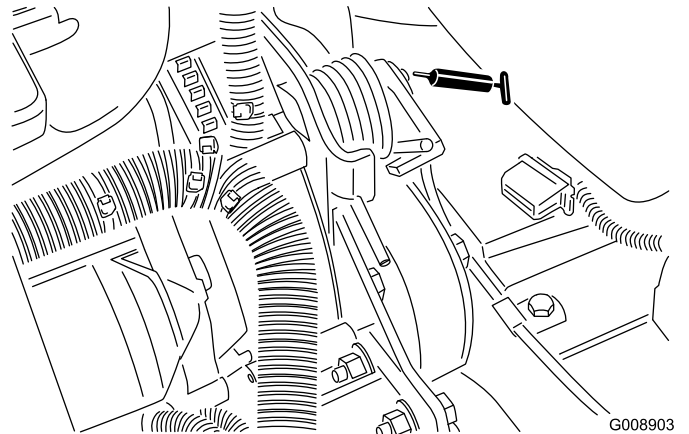

Figure 45
- Belt tension pivot (Figure 45)